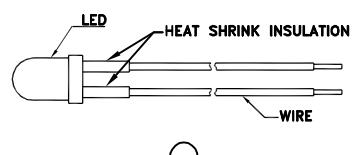

Fig. 2
2. When soldering wire to the LED, use individual heat-shrink tubing to insulate the exposed leads to prevent accidental contact short-circuit. (Fig. 2)